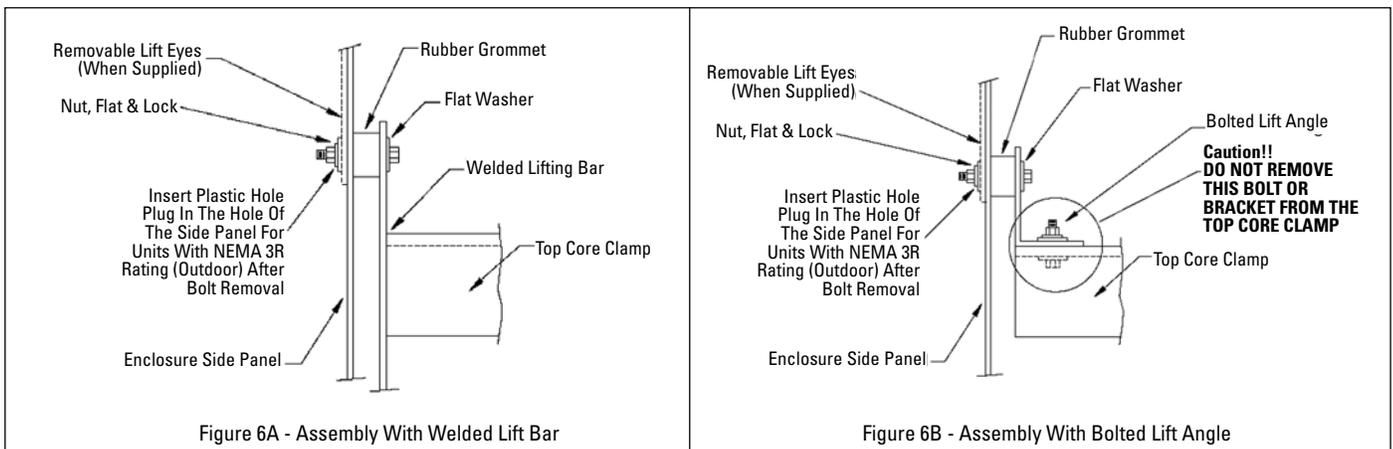

Figure 6 - Shipping Hardware Removal
3. Remove shipping hardware at installation (See Figure 6).